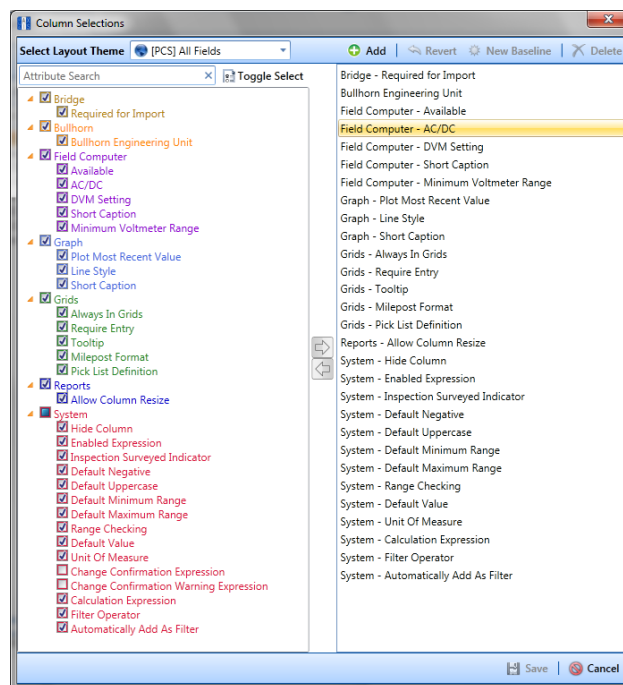

Figure 2-17. Column Selections
- 2 Click  **Customize** to open the *Column Selections* dialog box (Figure 2-17).
- 4 To remove one or more fields in the layout theme, complete one of the following steps (Figure 2-17, page 48):